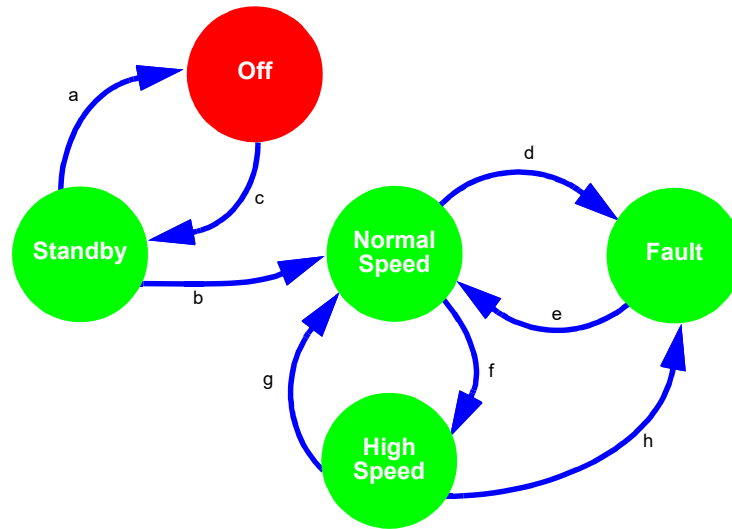
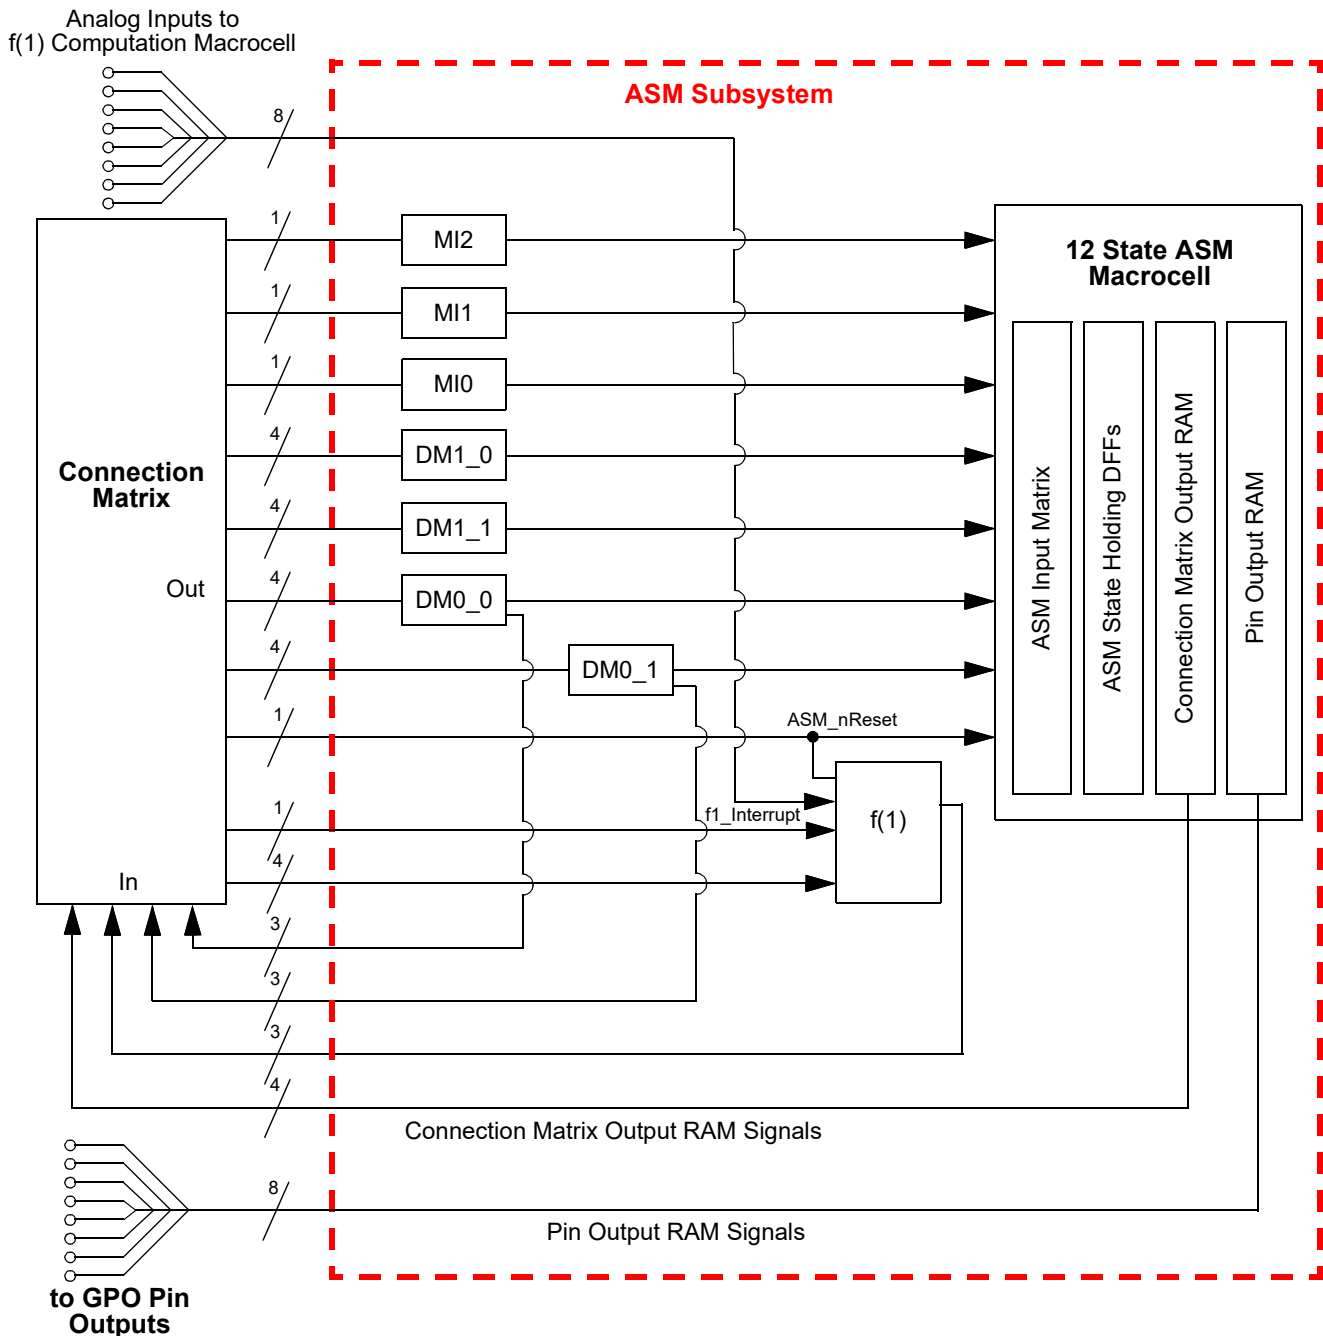

Figure 88: Asynchronous State Machine State Transitions
Figure 89: Connection Matrix to ASM Subsystem
The Asynchronous State Machine (ASM) Subsystem is designed to allow the user to create state machines with between 2 to 12 states. The user has flexibility to define the available states, the available state transitions, and the input signals (a, b, c ...) that will cause transitions from one state to another state, as shown in Figure 88.
- Dynamic Memory (DM) Macrocells – Section 16.
- f(1) Computation Macrocell – Section 17.
- Matrix Interface (MI) Macrocells Section 18.
The ASM Subsystem has a total of 25 digital input signal lines, as shown in Figure 89, which all come from the Connection Matrix outputs. Of these 25 digital input signals, 3 are user selectable inputs going directly from the Connection Matrix to the three Matrix Interface (MI) macrocells. There are a total of 16 input signals that go to the DMx_x macrocell, four per macrocell. There is 1 ASM_nReset input that is for driving a state transition in both the ASM macrocell and the f(1) Computation Macrocell to an Initial/Reset state. It is possible to use one macrocell only (MI or DM) for state to state transitions. There are 4 digital input signals coming from the Connection Matrix to the f(1) Computation Macrocell. There is also 1 dedicated Interrupt input signal to the f(1) Computation Macrocell that will halt any active operations and transfer control back to the ASM macrocell.
The ASM Subsystem has a total of 21 digital output signal lines, as shown in Figure 89. There are a total of 4 output signals which go to the Connections Matrix inputs, and from there can be routed to other internal macrocells or pins. The 4 outputs are user defined for each of the possible 12 states. There are a total of 8 output signals which go directly to the 8 GPOs. The 8 outputs are user defined for each of the possible 12 states. Each of the three macrocells, DM0_0, DM0_1 and f(1) have three output signals that go to the Connection Matrix.
The GPAK Designer development tools support user designs for the ASM Subsystem at both the physical level and logic level. Figure 88 is a representation of the user design at the logical level, and Figure 89 shows the physical resources inside the various macrocells in the ASM Subsystem. To best utilize this subsystem, the user must develop a logical representation of their desired state machine, as well as a physical mapping of the input and outputs required for the desired functionality.